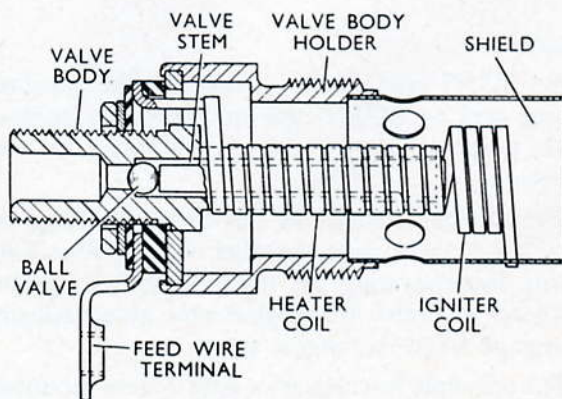
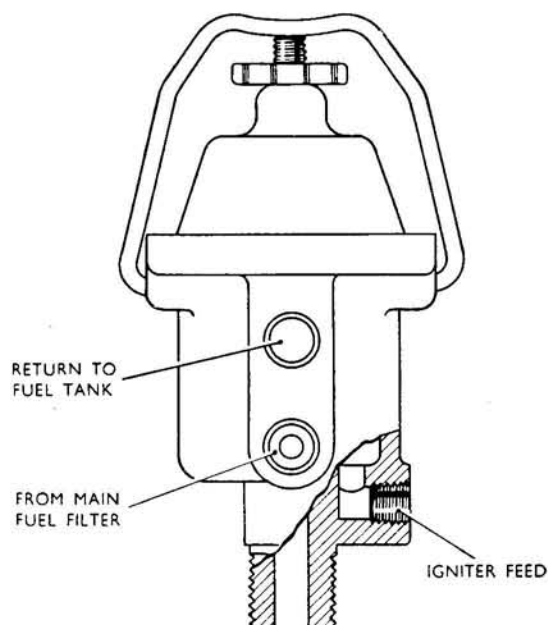

Fig. Q.3. Sectioned view of igniter for diesel engine
Fig. Q.4. Part-sectioned view of igniter supply tank
The supply tank (Fig. Q.4) is mounted on the engine cowl right-hand side panel. The igniter (Fig. Q.3), comprises a tubular valve body secured to a holder screwed into the intake manifold, and surrounded by a heater coil, an extension of which forms an igniter coil. The valve body houses a needle, the stem of which retains a ball valve in position against its seating. The valve body and the heater igniter coil is enclosed by a perforated shield which projects into the manifold. The igniter is connected to the supply tank by a flexible pipe.
2. Refer to Fig. Q.4 when connecting the fuel pipes.